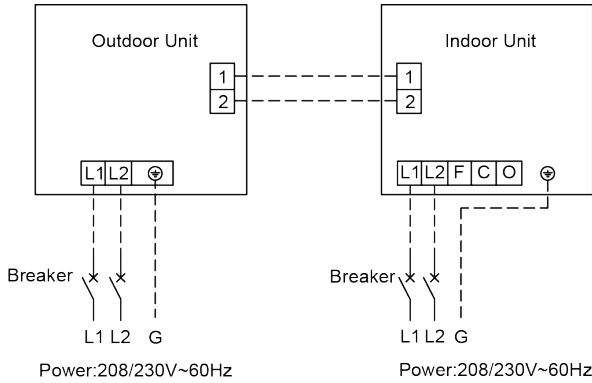

Fig. 4.40
- ①. The power cord and the wire of the fresh air valve are high-voltage, while the communication cord and connection wire of the wired controller are low-voltage. They should run separately against electromagnetic interference.
- ②. The high-voltage and low-voltage lines should pass through the rubber rings at different electric box covers.
- ③. Do not bundle the connection wire of the wired controller and the communication cord together, or arrange them in parallel, otherwise improper operation would occur.
- ④. The high-voltage and low-voltage lines should be fixed separately and securely, with internal big clamps for the former and small clamps for the latter.
- ⑤. Tighten the indoor/outdoor connection cord and power cord respectively on the terminal boards with screws. Faulty connection may cause a fire.
- ⑥. If the indoor unit connection cord (to the outdoor unit) and power supply are wired incorrectly, the air conditioner may be damaged.
- ⑦. Connect the indoor unit connection cord properly based on the corresponding marks as shown in Fig. 4.40.
- ⑧. Ground both the indoor and outdoor units by attaching a ground wire.
- ⑨. Unit shall be grounded in compliance with the applicable local and national codes.